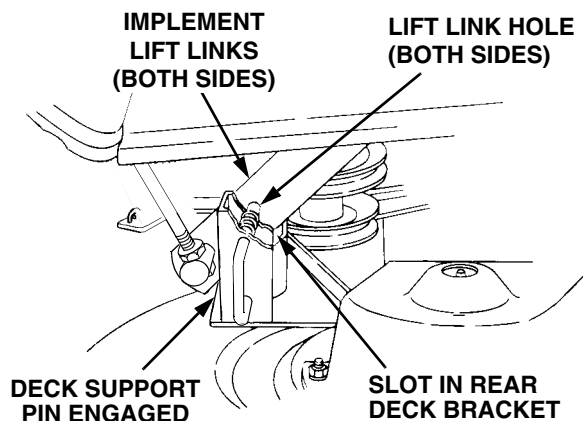

Figure 6-24
- Carefully guide the tractor implement lift links (left and right) into the rear deck bracket slots (left and right) as the tractor implement lift handle is lowered to its lowest setting (Refer to Figure 6-24).
8. Pull both deck support pins outward and rotate rearward to disengage the outer surface to the rear deck brackets. Release the pins, making certain each deck support pin passes through the inner hole of the rear deck bracket. The spring tension will push the pins inward and, if aligned, through the hole in each implement lift link (See Figure 6-24).